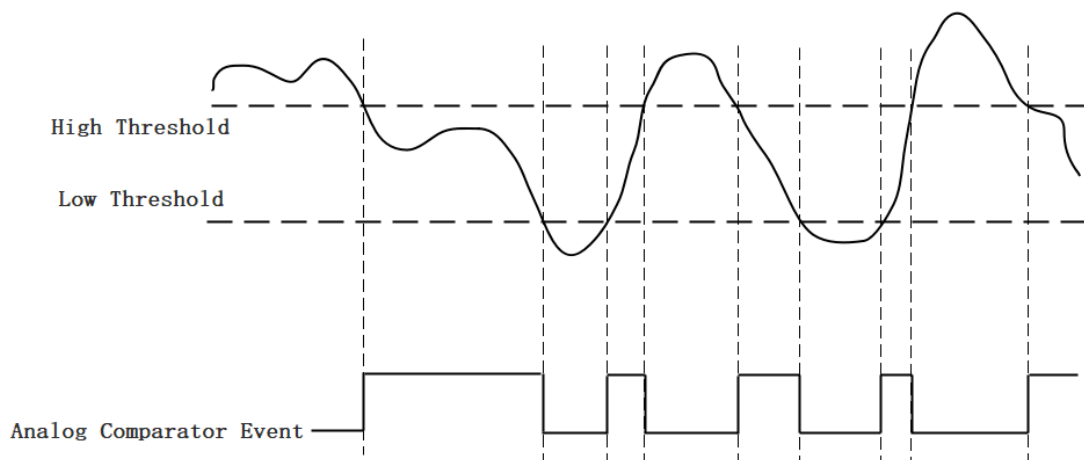

Figure 21 Entering Window Trigger
*Entering Window Trigger*: The window comparator output is high when the signal enters the window defined by the *Low Threshold* and *High Threshold*. The output will change to low when the signal leaves the window as shown in Figure 21.